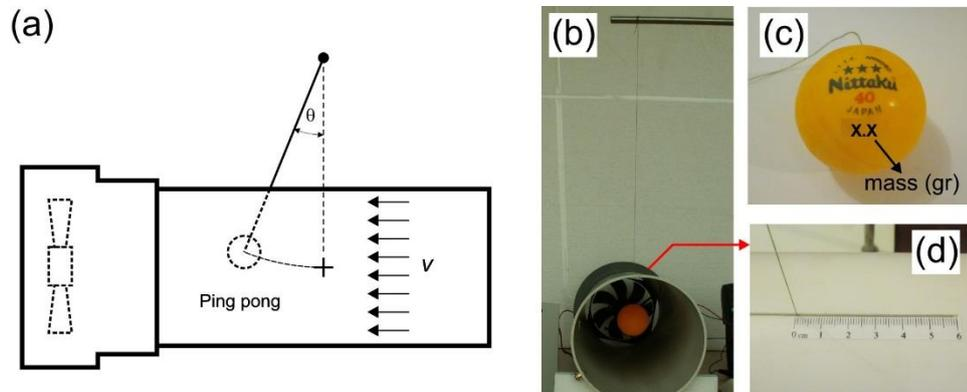

Figure 6. Ping pong ball anemometer experiment
Measuring wind speed is a primary metrology activity in wind power engineering. We will investigate a very simple method to measure wind speed using a ping pong ball pendulum as shown in Figure 6.
where C_D is the drag coefficient of the object, ρ_A is the density of the fluid (air), A_B is the cross section of the ping pong ball, v is the velocity of the ball relative to the fluid and m is the power factor. Mass of the ping pong ball m_B (in gram) is written on the ball as shown Figure 6(c). Please refer to **Constants & Data** in. pg. 2 for other data.
- (a) Insert the pendulum thread into the slot with the imprinted ruler as shown in Figure 6(d). Position the ping pong ball at the center of the tunnel. The imprinted ruler helps you to calculate the deflection angle θ